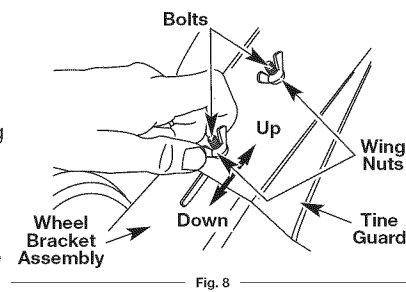

Fig. 8
3. Loosen (do not remove) the two wing nuts on the tine guard (Fig. 8).